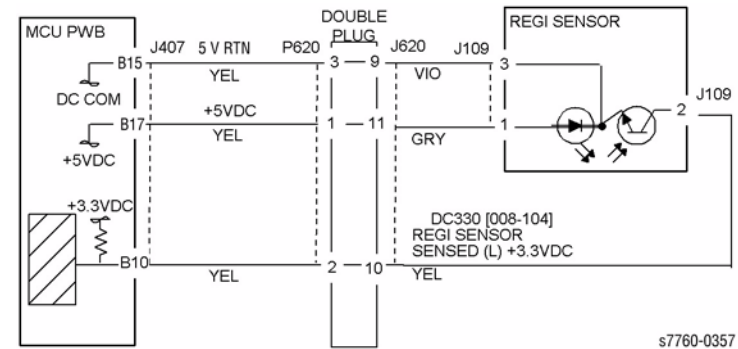
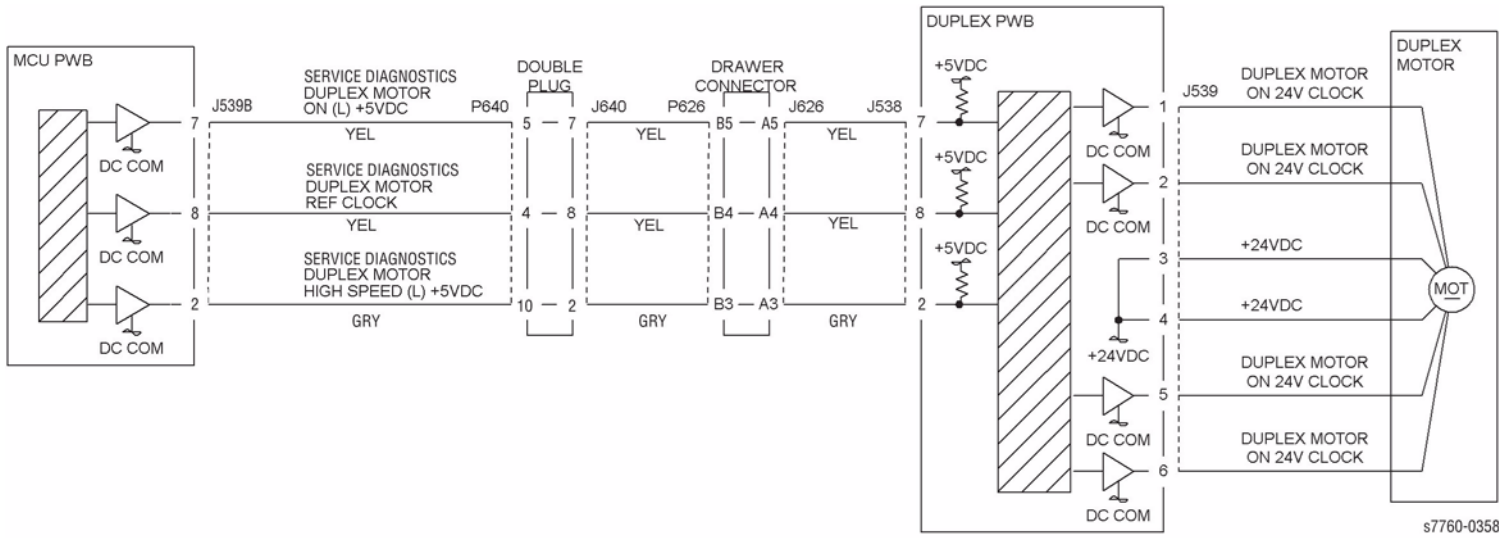
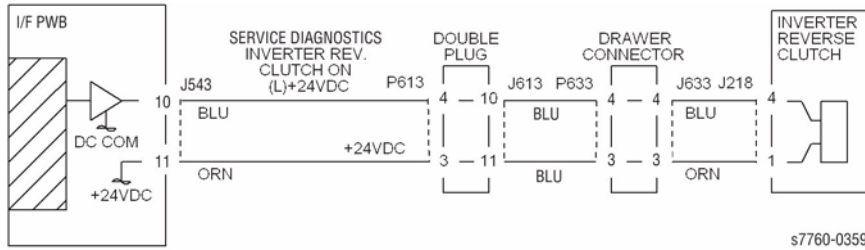
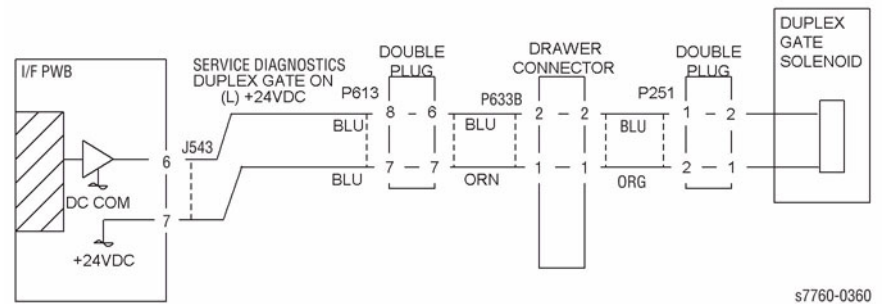

Figure 1 008-180 Registration Sensor
Figure 2 008-180 Duplex Motor
Figure 3 008-180 Inverter Reverse Clutch
Figure 4 008-180 Duplex Gate Solenoid
Check the circuit of the Inverter Reverse Clutch (Figure 3). Refer to Section 2, **OF 99-4 RAP** for troubleshooting procedure.
Check the circuit of the Duplex Gate Solenoid (Figure 4). Refer to Section 2, **OF 99-4 RAP** for troubleshooting procedure.
- Ensure that the connectors shown in the circuit diagrams (Figure 1, Figure 2, Figure 3, Figure 4) are securely connected and that the wires are not damaged.